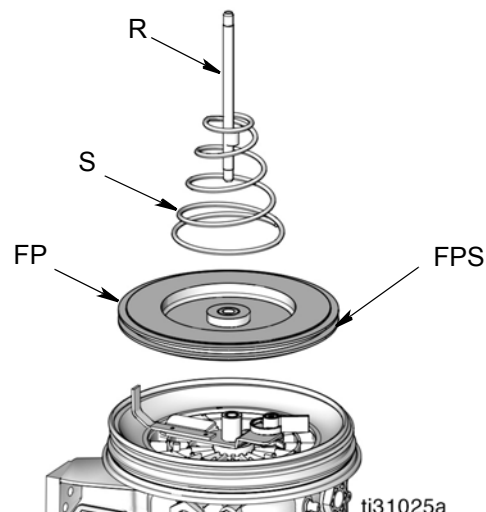

FIG. 3
7. If a follower plate is installed on the pump, verify the following parts were removed with reservoir (FIG. 3):
- Spring (S)
- Follower Plate (FP)
- Rod (R)